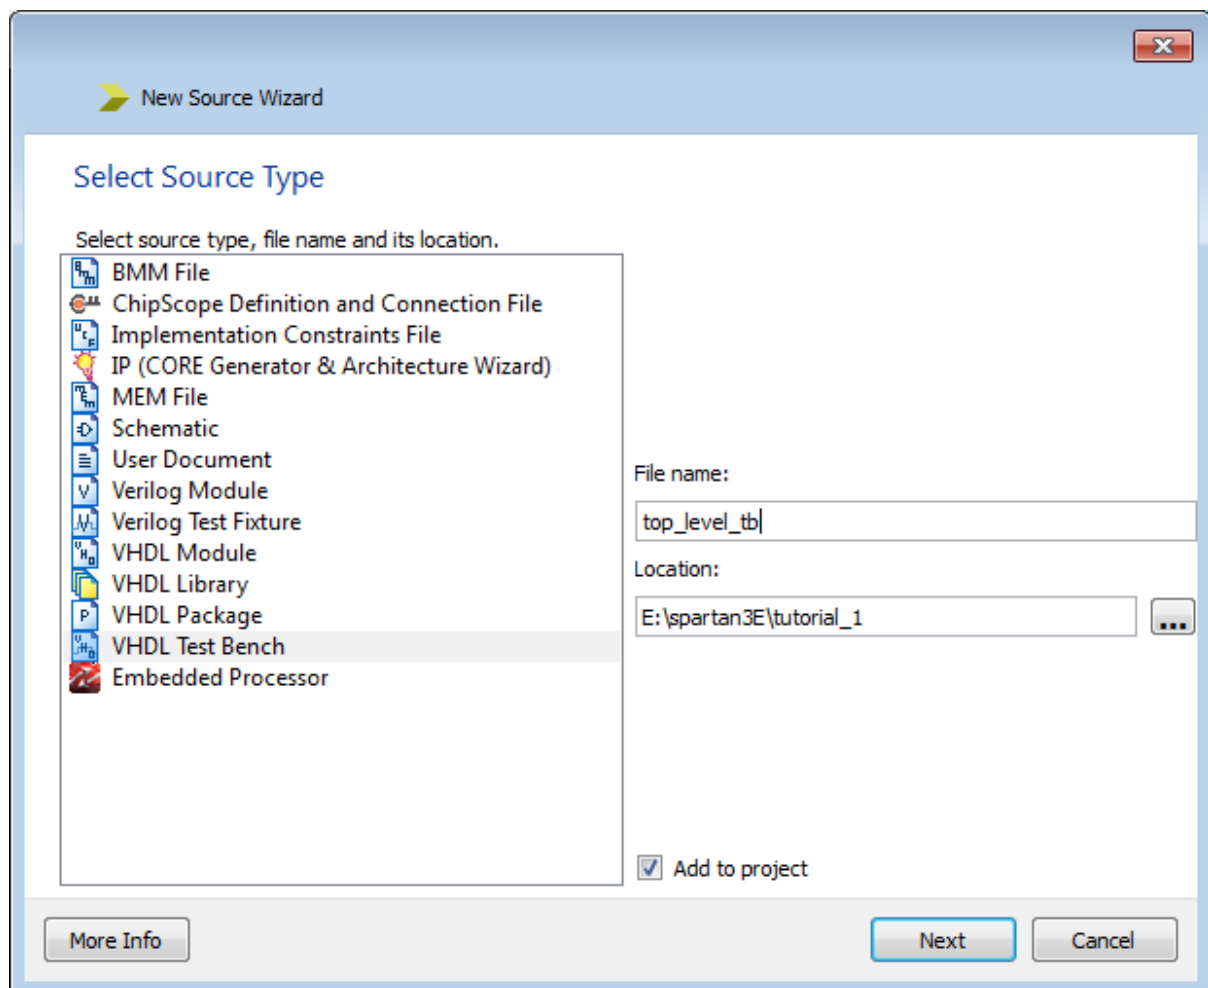

Figure 4.1: The New Source Wizard with values filled in for setting up a test bench.
1. Select **Project**→**New Source** as shown previously in Figure 3.6. The New Source Wizard will appear. Select source type as **VHDL Test Bench**, and enter the file name as **top_level_tb**, as shown in Figure 4.1. Click **Next**.